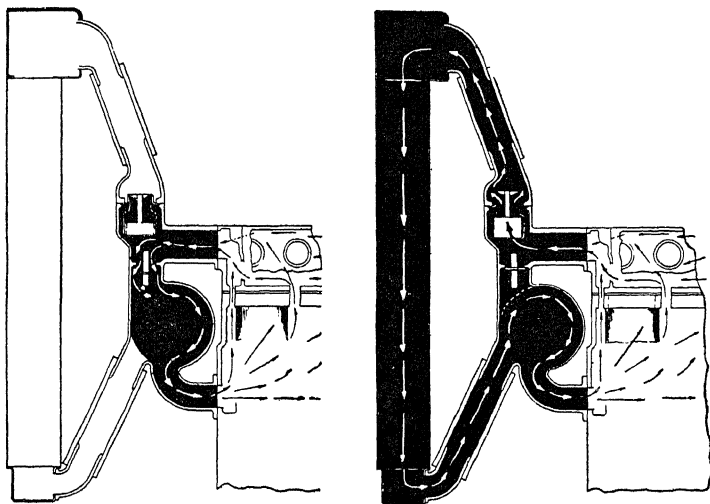

Fig. 16. Buick Cooling System Recirculation      Fig. 17. Normal Circulation in Buick Cooling System
**Buick Thermostat.** The circulation of the cooling fluid within the cooling system of the Buick engine is illustrated in Figs. 16 and 17. The flow of the cooling solution is thermostatically controlled,
the by-pass type of water temperature control being used. This system permits the water pump to circulate the coolant to the engine during the warm-up period without passing through the radiator, thus allowing the engine to reach its normal operating temperature quickly. This recirculation is illustrated in Fig. 16 where it will be noted that the thermostat permitting water to circulate to the radiator is closed and the water merely leaves the top of the cylinder block and is forced back into the lower portions of the cylinder block water passages. This control is accomplished by means of a thermostat which is located in the passage of the
cylinder head water-outlet and its spring loaded valve located in the water passage between the cylinder head water outlet and the water pump inlet, as shown in Figs. 16 and 17.
The spring loaded valve is somewhat smaller than the neck where it is located and this allows of a fixed orifice. The total area of the orifice is equivalent to a  $\frac{1}{2}$ -inch hole and permits a thermosiphon circulating when the engine is not running, cutting down the effect of what is termed "after-boil." "After-boil" refers to the stagnating of the coolant in a hot engine when the pump is not circulating the solution. During the time that the coolant is below normal operating temperature and the engine is running, it is blocked from circulating through the radiator by the thermostat valve. The pump pressure forces the coolant through the by-pass valve and allows the coolant to recirculate through the cylinder block and head, as shown in Fig. 16. When the coolant has reached a temperature of 148 to 153 degrees, the thermostat valve starts to open and the circulation proceeds in the normal way. At approximately 170 degrees the thermostat is fully open, relieving the water pump pressure on the by-pass valve which automatically closes.